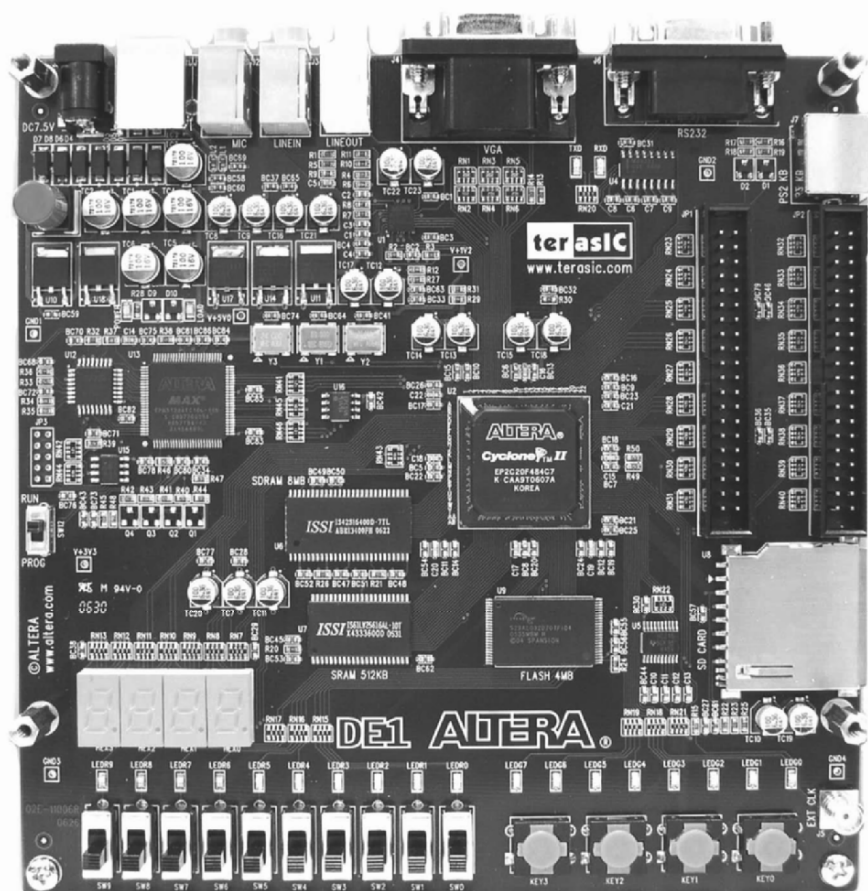

Figure 2.1 The Altera DE1 board has a number of onboard I/O devices.
On each of the boards, the FPGA is the large square chip located near the center of the development board. Locate the FPGA chip on the DE1 board as seen in Figures 2.1 and 2.2. Each of the various board's FPGAs has a different array of features. These are summarized for the different boards in Table 2.1. Each FPGA has a different number of logic elements (LE) that are used to implement user logic. They also contain varying amounts of both internal embedded memory blocks and the newer boards also have external memory.